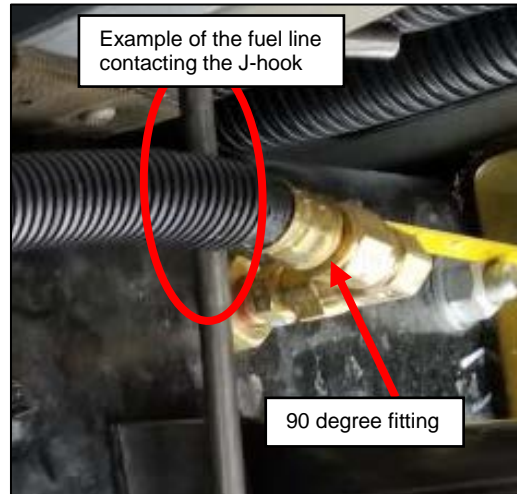

Figure 2: 90-Degree Fitting on Fuel Line
2. Locate the 90-degree fitting on the fuel line at the rear of the frame. See **Figure 2**.